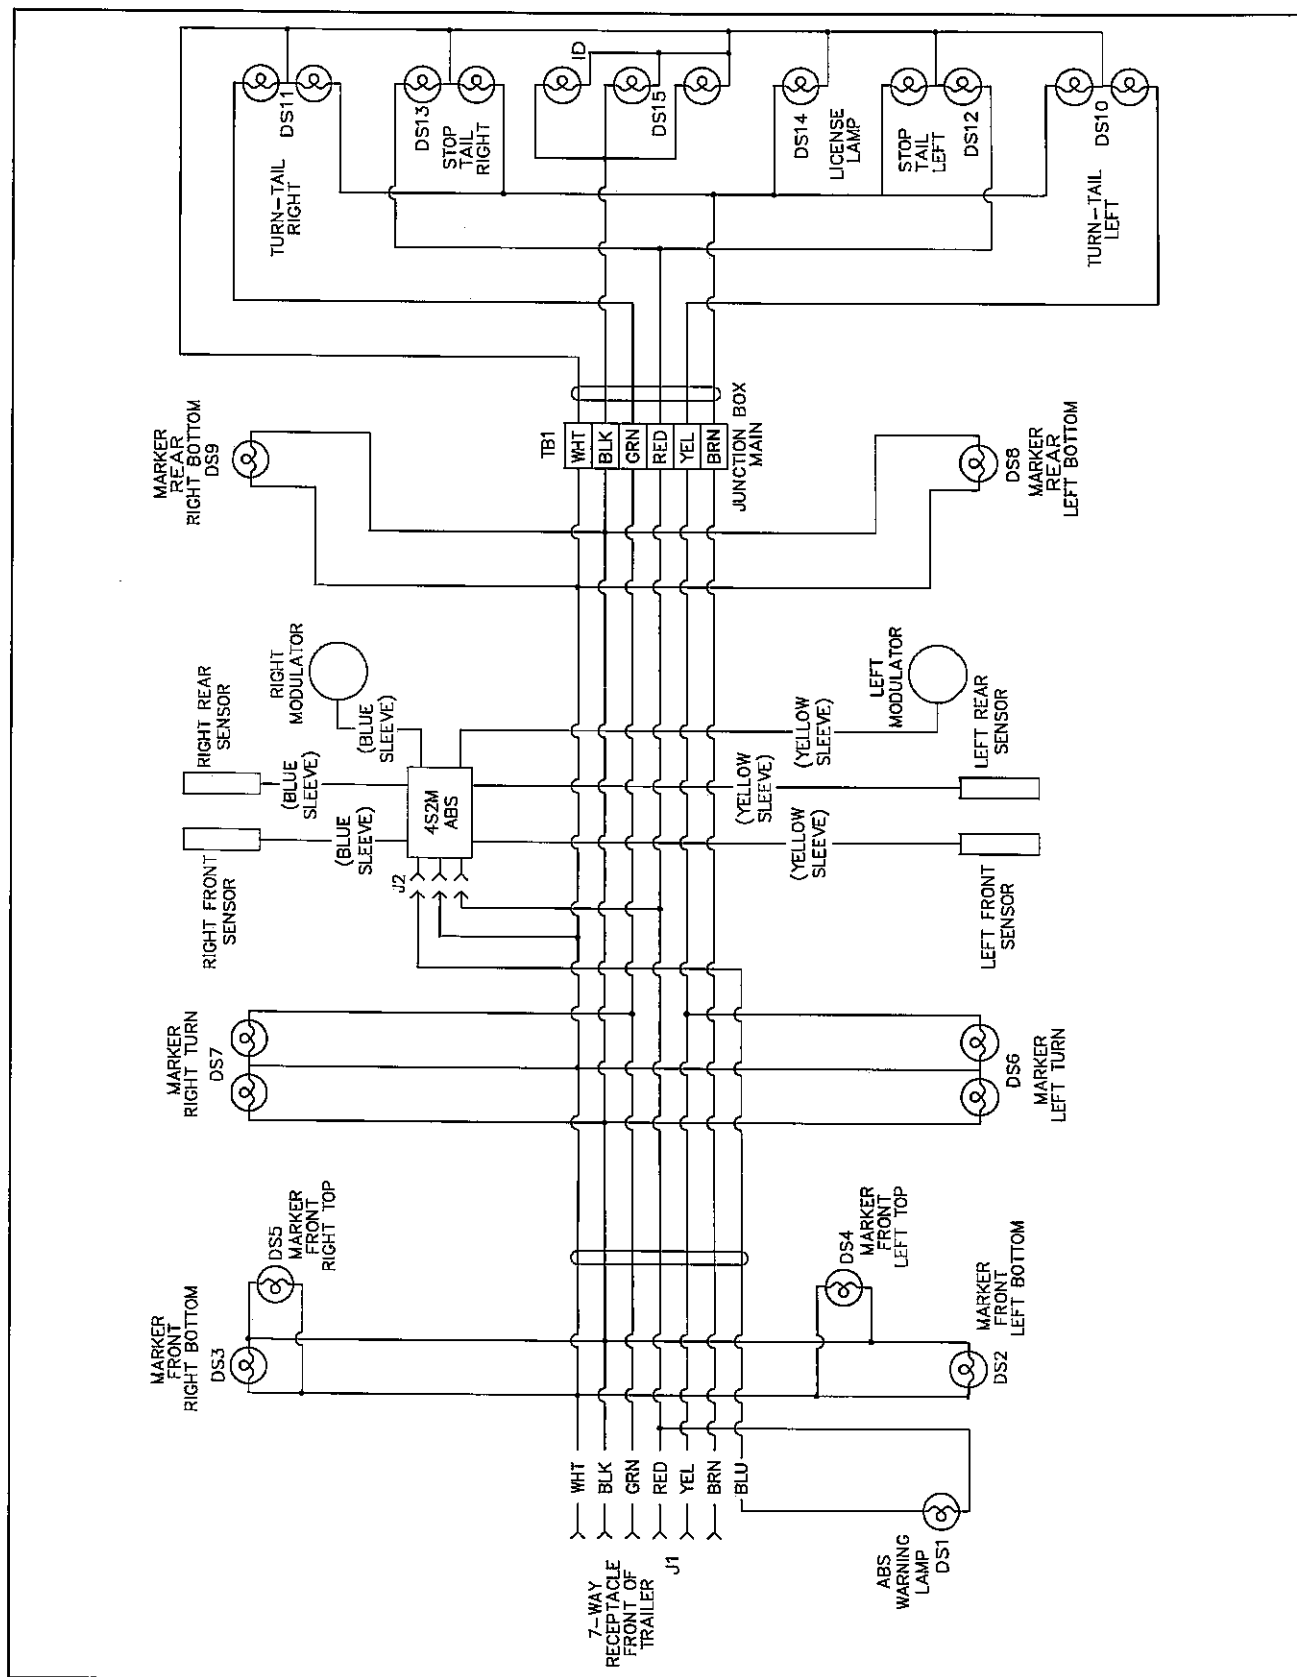

Fig. 4-1 Electrical Schematic
**4-5.1** Maintenance of the electrical system consists of inspection and minor servicing. Any wire, connection or electrical component showing signs of corrosion, wear, breakage or unraveling must be repaired or replaced. See Figure 4-1 for a wiring diagram. For a detailed wiring diagram of the Anti-lock Brake system refer to the Modal Trailer ABS Service Manual.